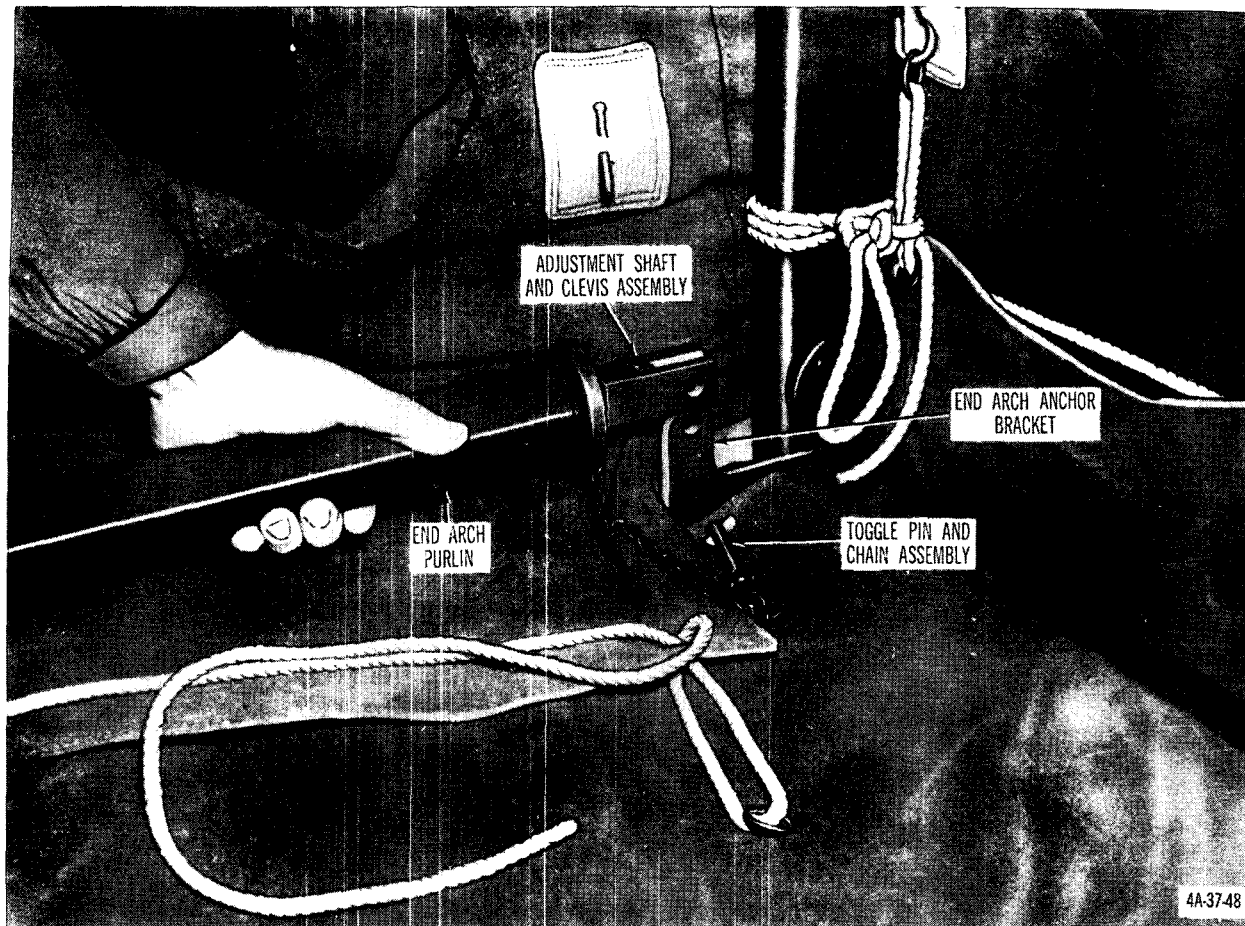

Figure 54. Installing end arch purlin of tent, frame-type, maintenance, medium light metal.
- (g) Open doorpost top assemblies, pull hoist chain to raise vehicle doors, and insert door spar rollers in channels of doorpost (5). Close doorpost top assemblies, lower vehicle doors, lift top door spars to spar pockets, and button pocket flaps over door spars.
- (6) *Installing end arch purlins and securing end walls* (fig. 54).
- (d) Secure end walls to tent frame as described in (4) (c) above.